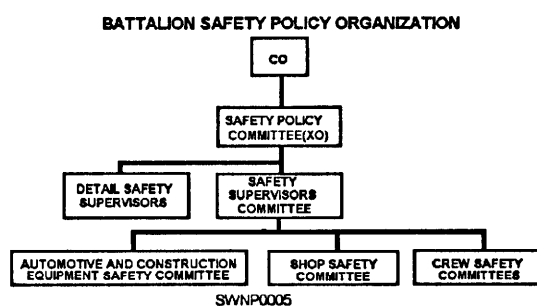

Figure 1-6.—The Safety Organization Chart of the NMCB.
The safety organization of the NMCB provides for (1) the establishment of safety policy and (2) control and reporting. As shown in figure 1-6, the Battalion Safety Policy Organization is made up of the policy committee, supervisors' committee, equipment, shop, and crew committees. The SAFETY POLICY COMMITTEE is presided over by the executive officer. Its primary purpose is to develop safety rules and policy for the battalion. This committee reports to the commanding officer, who must approve all changes in safety policy.